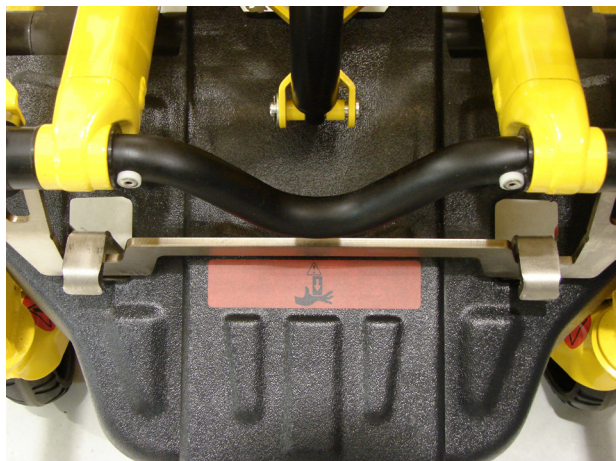

Figure 16 - Cot in Fastener (Head End)
3. Check to be sure the cot is securely fastened at both the head end and foot end before releasing your grip on the cot as shown in Figure 16.